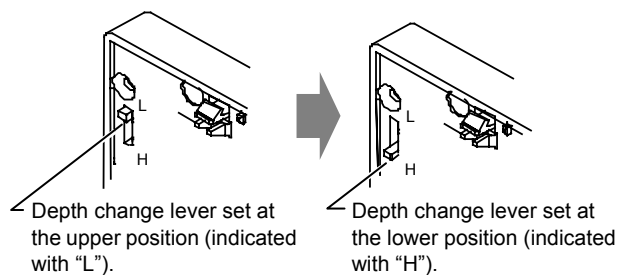

Figure 15. Depth change: Setting the depth change lever
- 5) Set the depth change levers on the bilateral sides of the Neostat main unit to the upper position (indicated with "L" shown in Fig. 15).
- 6) Set the depth change levers on the bilateral sides of the Neostat main unit to the upper position (indicated with "L" shown in Fig. 15).
- 4) Set the depth change levers on the bilateral sides of the Neostat main unit to the lower position (indicated with "H" shown in Fig. 15).